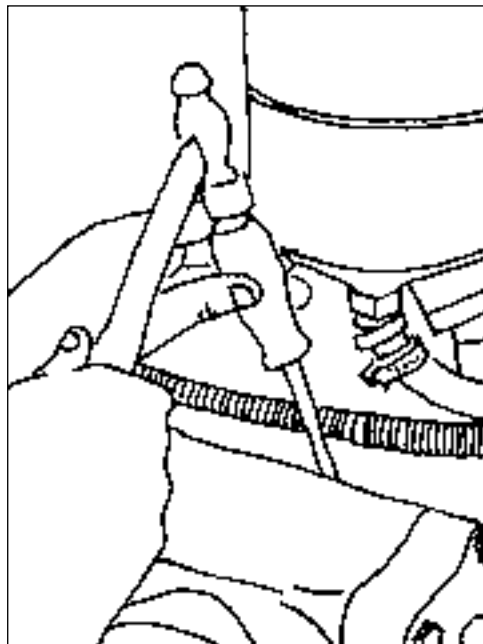

Figure 21
5. Remove the dirt shield from the frame side of the sector shaft. A screwdriver or gasket scraper can be used to shear the old dirt shield from the housing (**Figure 21**).